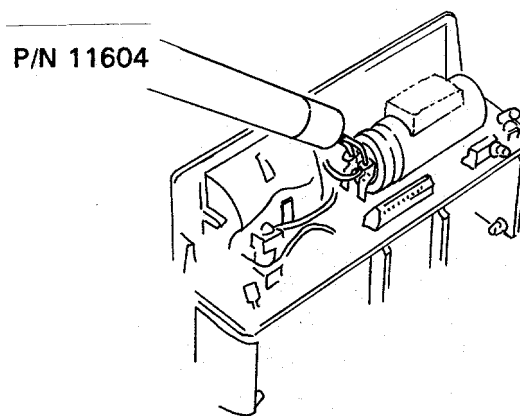

Fig. 2 Discharging Strobe Capacitor with Dump Probe
2. Discharge Strobe Capacitor by holding Dump Probe 11604 on Capacitor terminals for 5 - 10 seconds (Fig. 2).